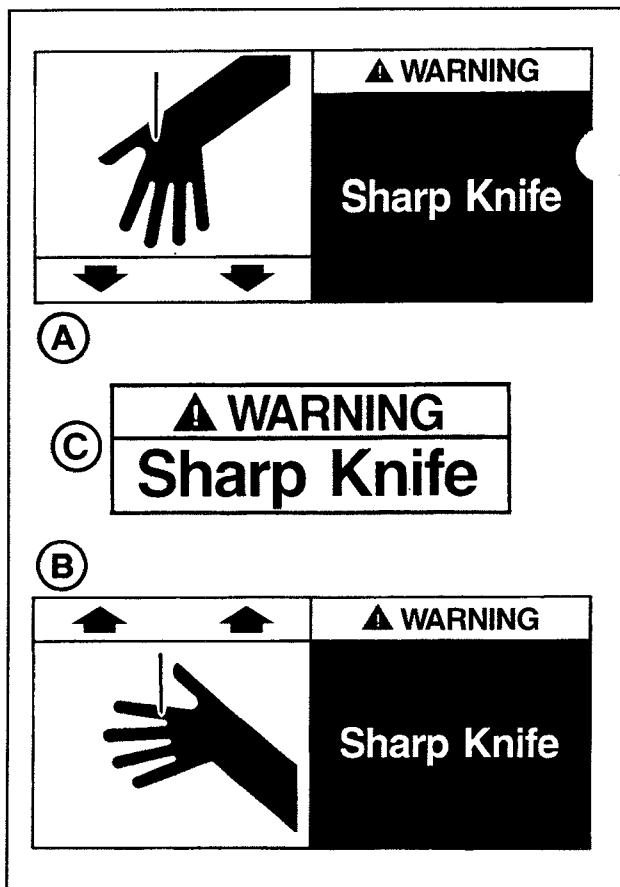

Figure 1-1 - Knife Warning Labels
The two illustrated labels (A-B) "**Warning Sharp Knife**", shown in **Figure 1-1**, are attached to the sides of the upper frame at the location of the cut-off blade on the upper taping head. Two of the same labels are attached to the bed frame at the location of the cut-off blade on the lower tape head. The labels warn operators and service personnel of the very sharp knife used to cut the tape at the end of the tape application.
The "**Warning - Sharp Knife**" label (C) shown in **Figure 1-1**, is attached to the orange cut-off blade guard on both taping heads. The label warns the operator and service personnel of the very sharp knife located behind the guard and to keep hands out of this area except for tape loading and/or servicing the taping heads.